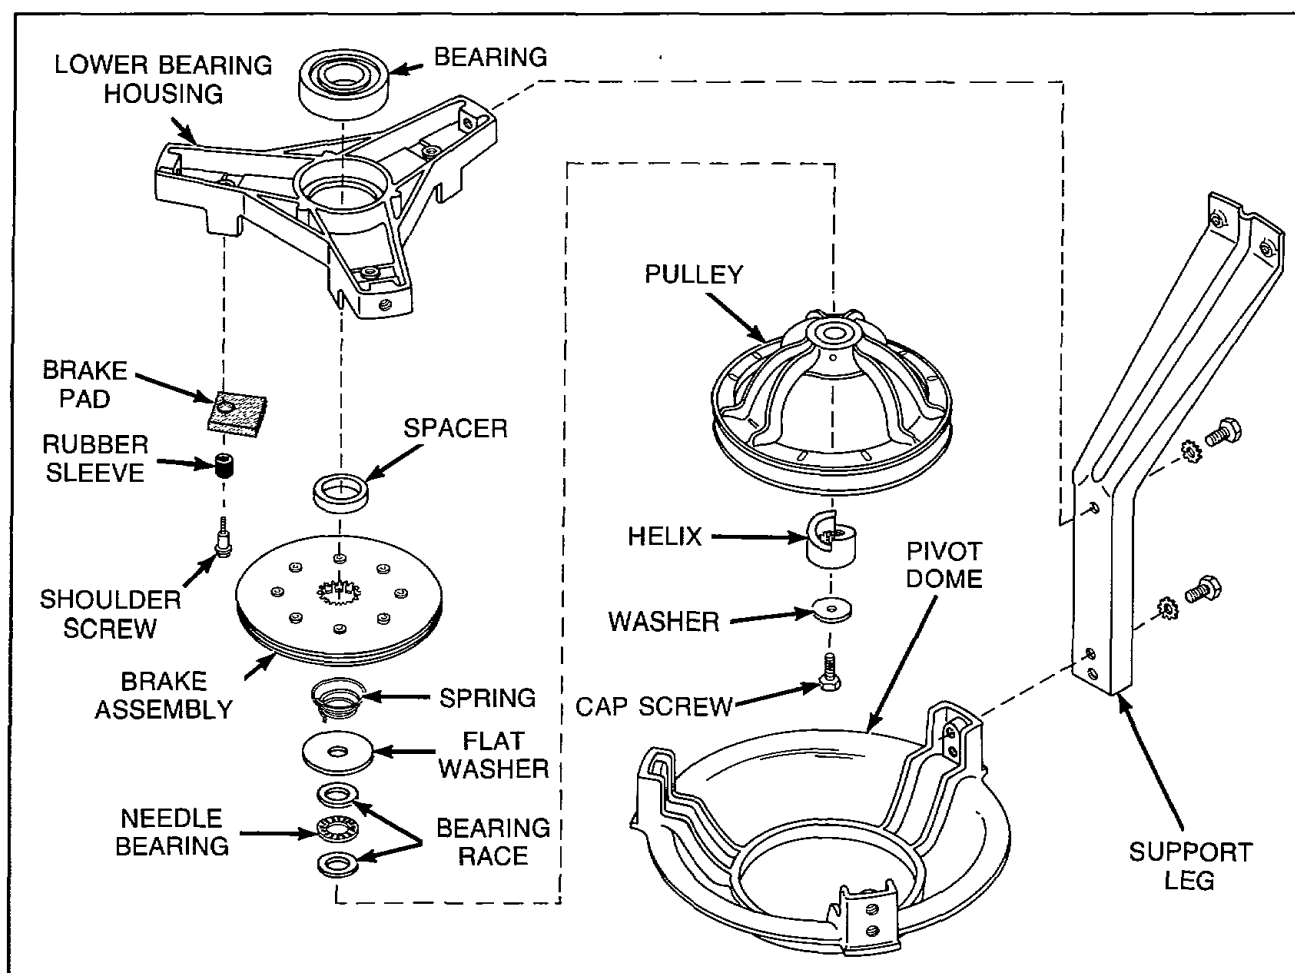

Figure 33
**IMPORTANT:** When reassembling, large flat washer, bearing race, needle bearing and bearing race must be in place, see *Figure 33* for assembly sequence.
- c. Remove three shoulder screws holding brake pads, rubber sleeves and brake assembly to lower bearing housing, *Figure 33*, then remove brake assembly, pads and spacer off bottom of transmission assembly.
**NOTE:** Refer to *Figure 33* for assembly sequence.
- o. Remove drive pulley from transmission shaft, *Figure 33*.
- p. Remove needle bearing, bearing races and large flat washer from transmission shaft, *Figure 33*.
- r. Remove three shoulder screws and rubber sleeves holding brake pads to lower bearing housing, *Figure 33*.
- t. Remove three cap screws and lockwashers holding lower bearing housing to tub support legs, *Figure 33*.